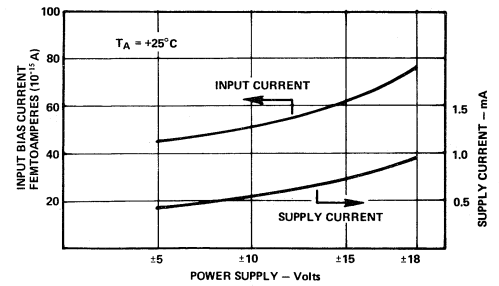

Figure 8. Input Bias Current and Supply Current Versus Supply Voltage
2. The heat dissipation can be reduced initially by careful investigation of the application. First, if it is possible to reduce the required power supplies, this should be done since internal power consumption contributes the largest component of self-heating. To minimize this effect, the quiescent current of the AD515 has been reduced to a level much lower than that of any other electrometer-grade device, but additional performance improvement can be gained by lowering the supply voltages, to ± 5 volts if possible. The effects of this are shown in Figure 8, which shows typical input bias current and quiescent current versus supply voltage.